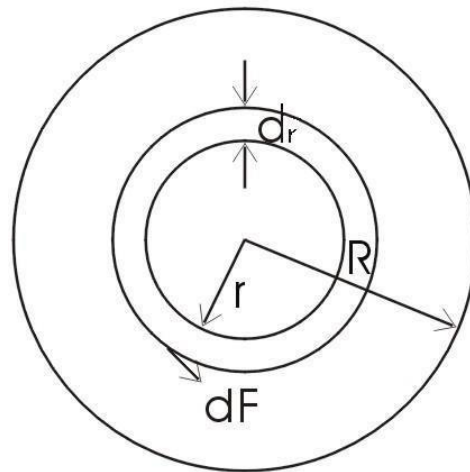

Figure 2-3
As figure 2-3, the radius on the inner ring on the cylindrical top is “r”. “dr” as the width of the ring. If the force to the ring is dF, we can get below from equation (1) :